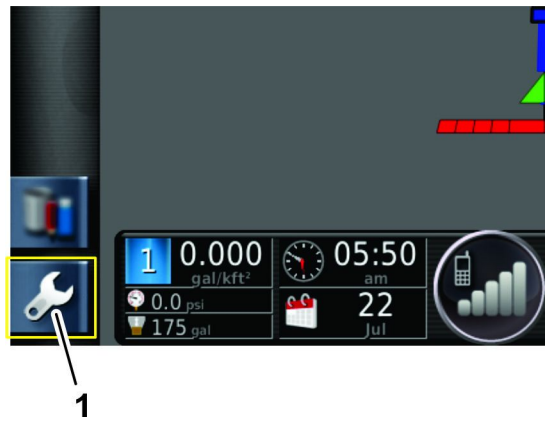

Figure 123
3. Press the SETUP icon on the main screen (Figure 123).